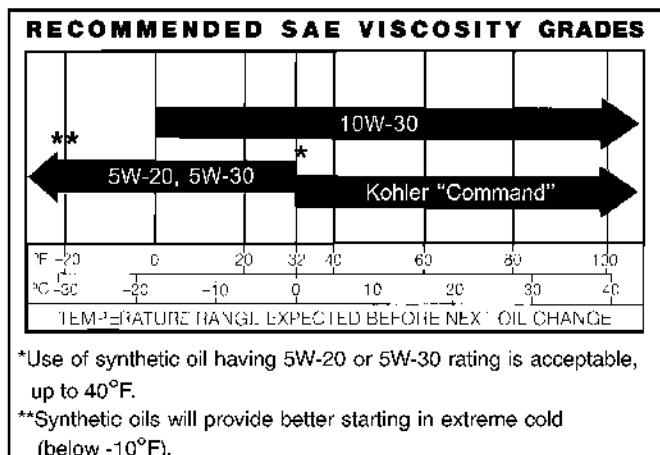

Figure 3. Viscosity Grades Table.
1. Be sure to use the proper oil for the temperature expected. See Figure 3 on page 5.